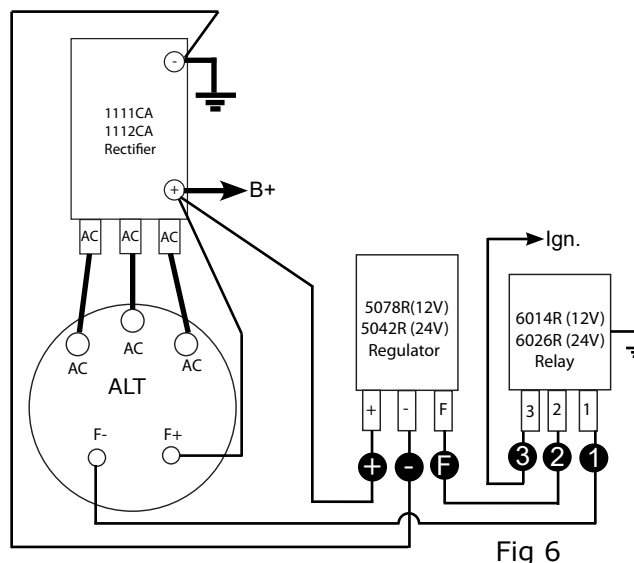

Fig 6
2) Identify and label vehicles wires connecting to voltage regulator and relay as indicated in Fig 6.
3) Remove ①, ②, ③ wires from relay and +, -, F wires from regulator terminals. Remove both regulator and relay from vehicle. Fig 6